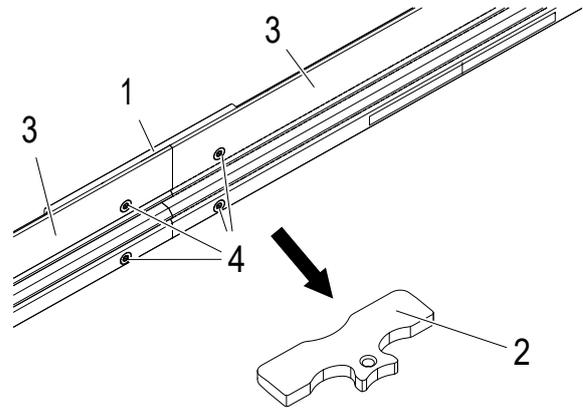

Fig. 80: Remove mounting aid
- Remove the mounting aid (2) from the connection point (see Fig. 80) and connect and mount all ProfiDAT®compact rails in the same way.